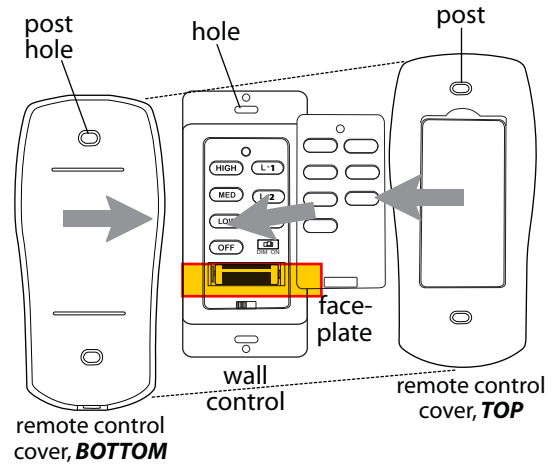

Fig. 8
- E. Attach **black faceplate** to front of wall control; press down firmly. (See Fig. 8)
- F. Align holes in wall control with posts located on inside of TOP part of remote control cover and press together firmly. Place wall control into BOTTOM part of remote control cover, aligning posts in top of remote control cover with post holes in the bottom. (**NOTE:** Make sure to align narrower ends of remote control cover before closing.) Squeeze top and bottom of remote control cover together until you hear a click at each end, indicating that the remote control cover has closed completely. (See Fig. 8)